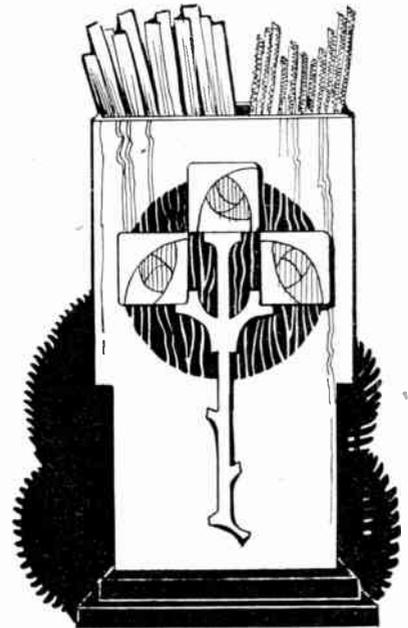
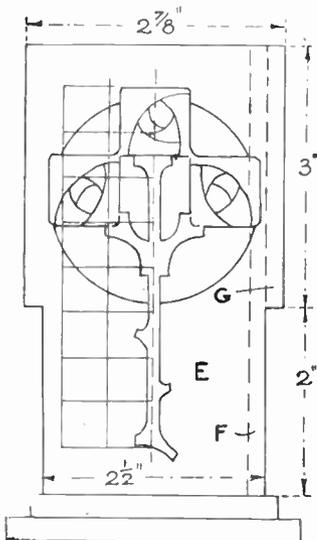

Fig. 4—The second holder
Fig. 5—Dimensions of the second design
The second design, that shown in Fig. 4, consists of a plain upright box made up of two pieces (E) and two pieces (F)—see the front view Fig. 5 and the sectional detail Fig. 6. In the latter diagram can be seen the simple construction, while Fig. 5 gives the necessary measurements.
The side faces of the box should be glasspapered clean and then some thought given to the overlay on the front. There are one or two ways of carrying out a good colour scheme. An attractive one would be an inlay in, say, three woods, the darkened parts shown in the sketch Fig. 4, giving a clue as to the shade or colour. To do this, an enlargement must first be made from the squared half of the design in Fig. 5. The squares here are shown to scale $\frac{1}{2}$ in. and, therefore, sixteen $\frac{1}{4}$ in. squares must be drawn on a paper pattern, and the completed outline made by transferring the half design to the other side